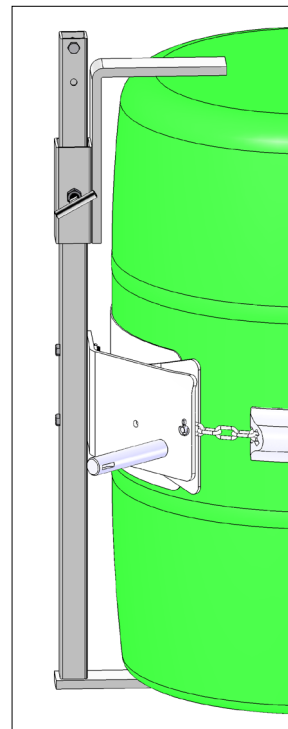

Figure 2.1
- 1. Stainless Steel Bracket Assembly Kit # 456SS-P** is **required** to handle a RIMLESS plastic drum (figure 2.1), and is also recommended for a fiber drum. The Bracket adjusts for a 31" to 39" (79 to 99 cm) tall drum. You can also handle a rimmed drum with the Bracket installed.